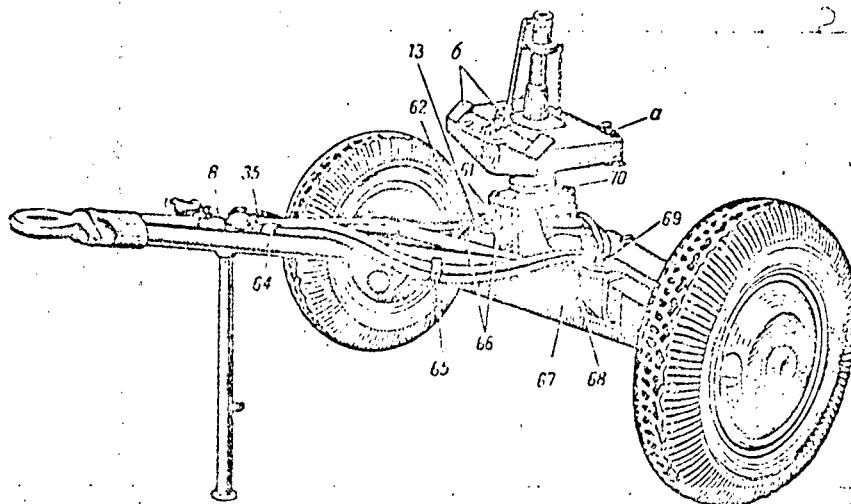

Fig 104. Limber
On the upper surface of the limber axle housing are located box 30 for holding the spare parts and tools and box 36 for housing the sockets of electric wire 35. Boxes 30 and 36 are fastened by bolts 55 and lock washers. Close to the boxes 30 and 36 are mounted holders 69 (Fig 104) for clamping the hose on the limber.
On the top of the cover plate 25 is mounted a rubber buffer 28 with a jacket 27. The cover plate 25 also has a grease cup 70 (Fig 104) for lubricating the bearing surface of the bronze bushing 26 50X1-HUM.
The limber boom 7 has two eyes by which it is connected to the limber axle 31 with the aid of pins 68 and nuts 67 (Fig 104).
The boom 7 has two cleats 65 (Fig 104) and two holders 64 for clamping the limber hoses.
1. Place wooden blocks under the limber axle and remove hoses 8 and electric wires 35 (Fig 104) if they have not already been removed.
4. Replace the limber boom 7, insert the pins 68 (Fig 104), screw on the nuts 67 with wrench A52830-6, and lock.